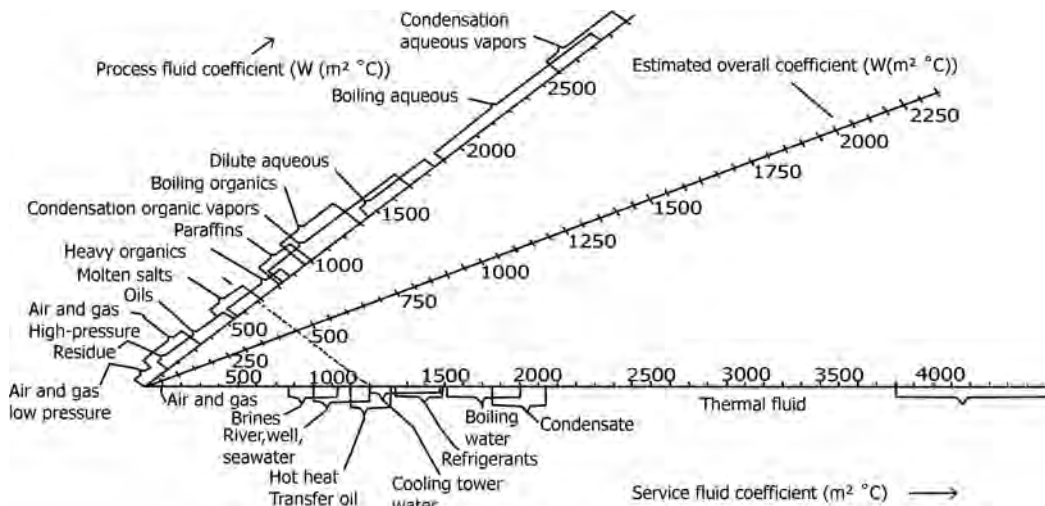

FIGURE 9.17 Overall coefficients. Join process side duty to service side and read U from center scale (see dotted line for illustration).
- Figure 9.17 gives a nomograph for the estimation of overall heat transfer coefficients for preliminary design of heat exchangers.